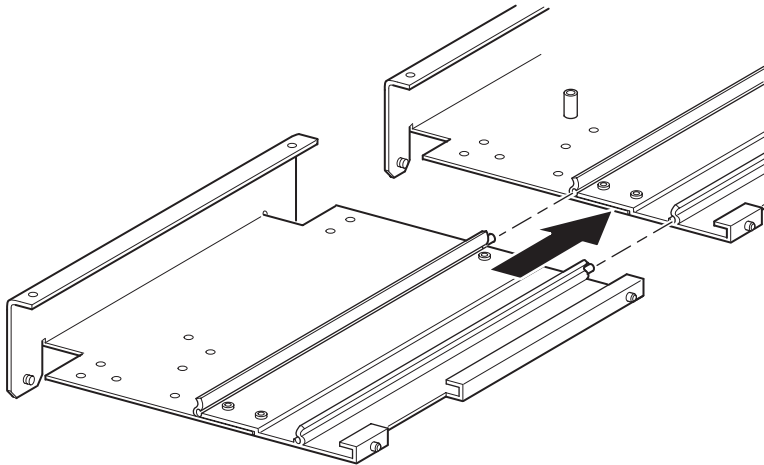

Figure 2-11. Mounting a 5U or 10U extension
8. Mount a 5U or 10U extension as follows (see Figure 2-11):